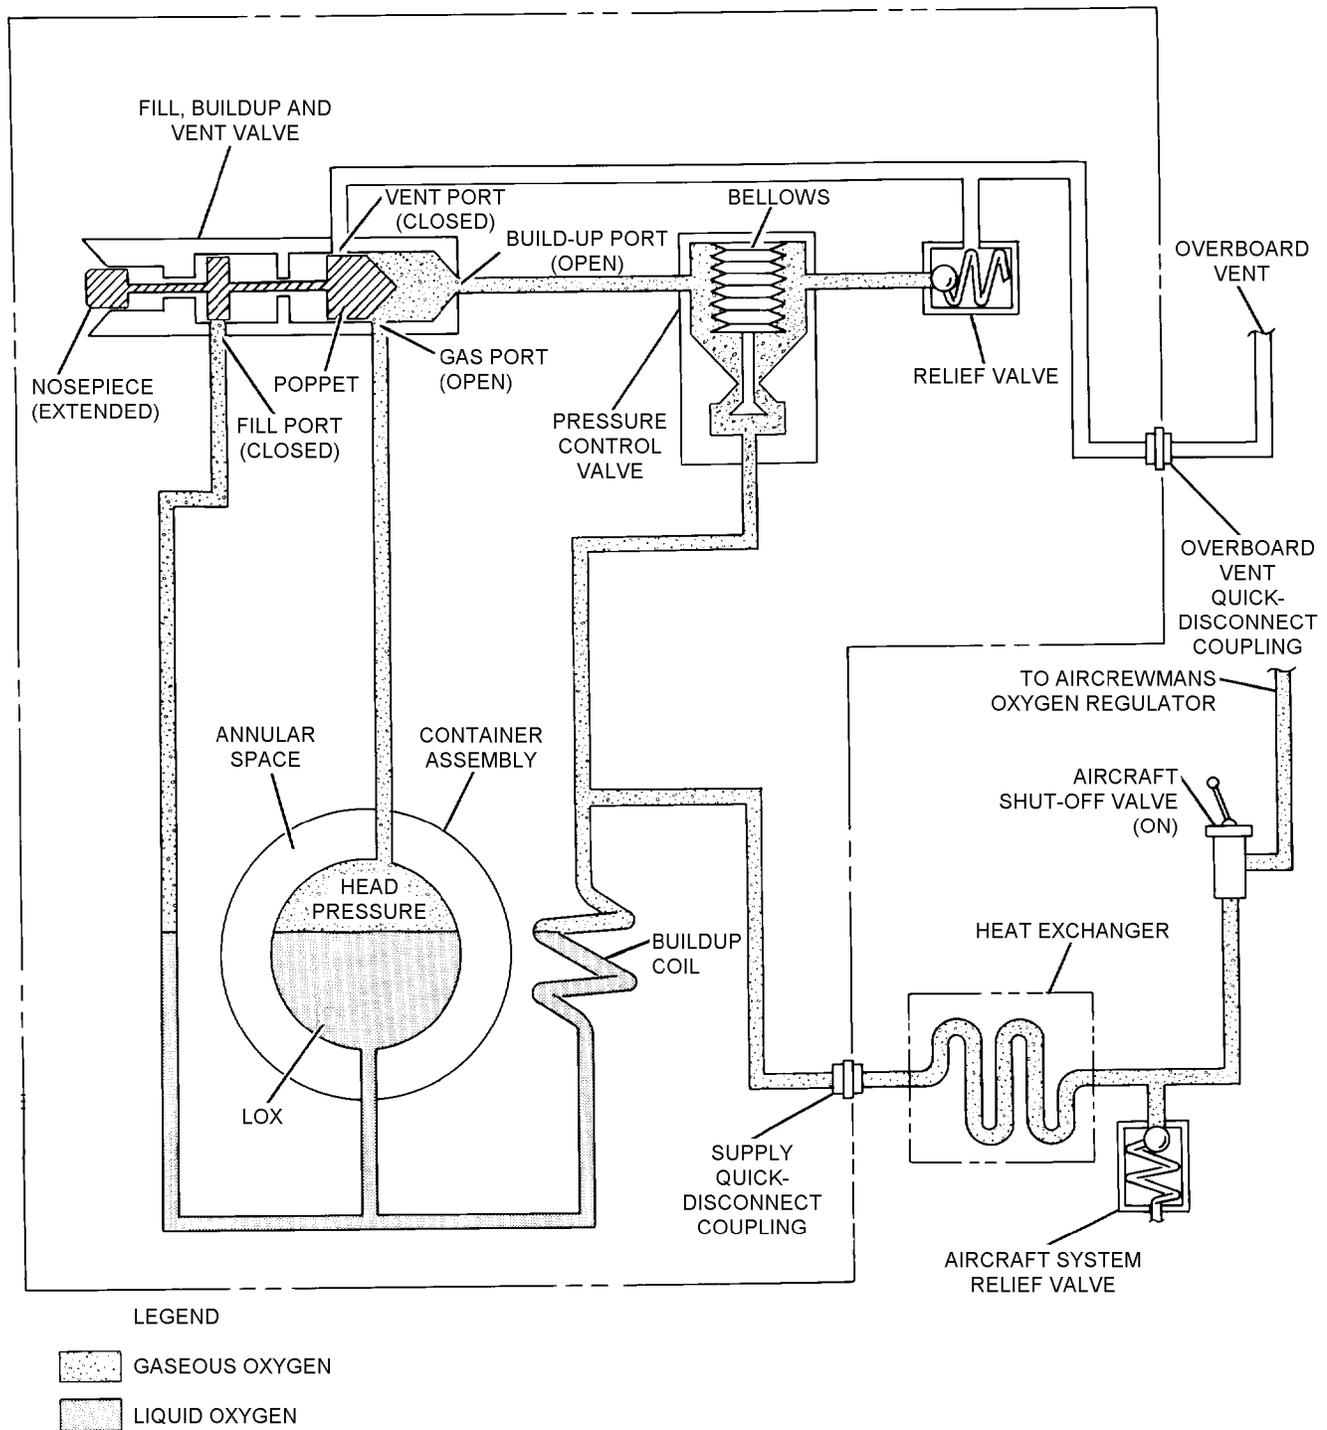

Figure 7-3. Buildup and Supply Mode (Converter Installed)
4. When the converter is full and the servicing trailer filler valve is disconnected, the nosepiece and poppet of the fill, buildup, and vent valve returns to the extended position (figure 7-3). This automatically puts the converter into the buildup and supply mode. In this mode, the fill and vent ports are closed and the buildup port is open.
5. In the buildup and supply mode, LOX is forced out of the bottom of the inner container and into the buildup coil by the weight of the liquid (figure 7-3). As the LOX warms and vaporizes into gaseous oxygen in the buildup coil, pressure is created. This pressure is controlled at approximately 75 psig by the opening and closing action of the pressure control valve.